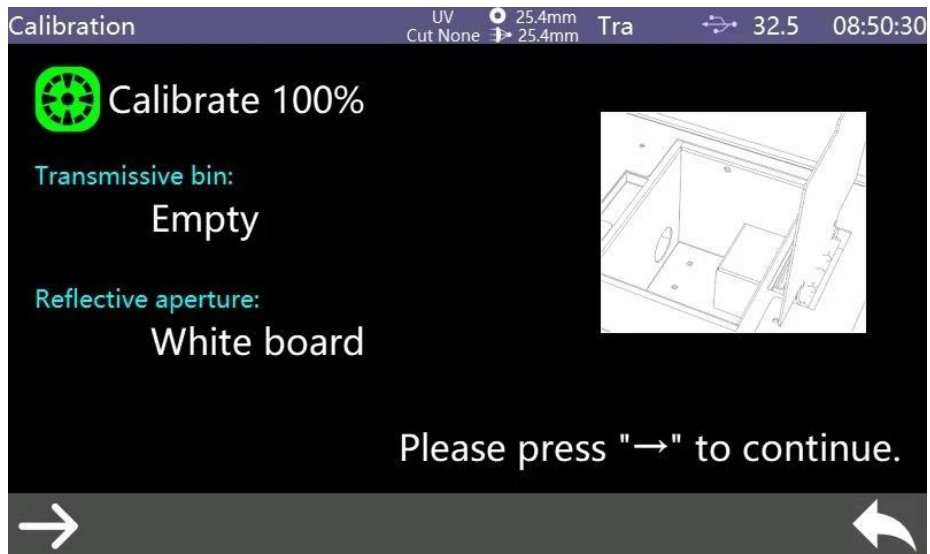

Figure 8
2, After finishing 0% calibration, enter 100% calibration ,take out the black plate, place the white calibration reference according to prompt, ensure it stick to the side of integrating sphere tightly, close the bin cover, and press test key to start calibration.as shown in Figure 8.
- 2, After finishing 0% calibration, enter 100% calibration ,take out the black plate, place the white calibration reference according to prompt, close the bin cover, and press test key to start calibration.as shown in Figure 8